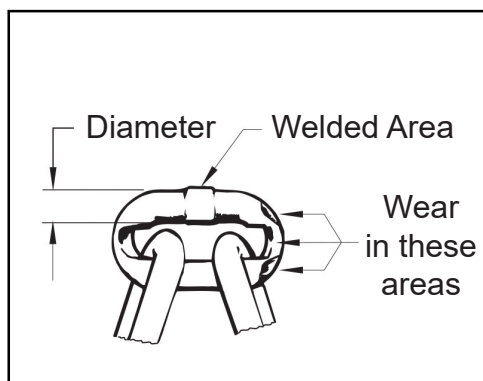

FIGURE 12
- » CHAIN: Examine each link for bending, cracks in weld areas or shoulders, transverse nicks and gouges, weld spatter, corrosion pits, striation (minute parallel lines) and chain wear, including bearing surfaces between chain links (See Figure 12). Replace a chain that fails any of these inspections. Check lubrication and lubricate if necessary.